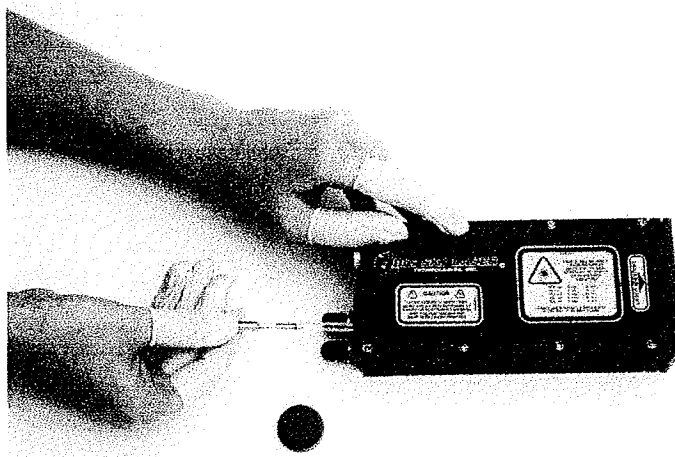

Figure 11: Flashlamp Replacement
Handle the flashlamp only with talc-free, rubber finger cots. Refer to Figure 10 and Figure 11.
2. With the Laser Head placed flat on its mounting feet, remove the lamp access cover, shown in Figure 10, from the Laser Head by pushing and rotating counterclockwise. Removal of the cover will reveal the plastic lamp insertion tool. (See Figure 11).